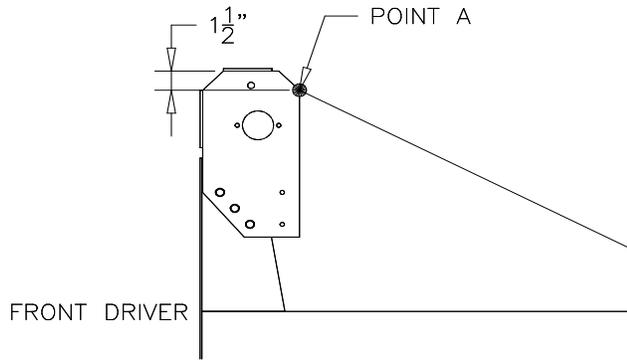
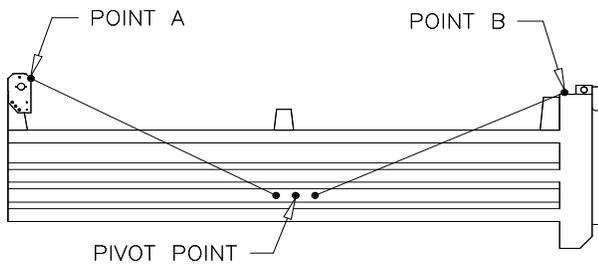
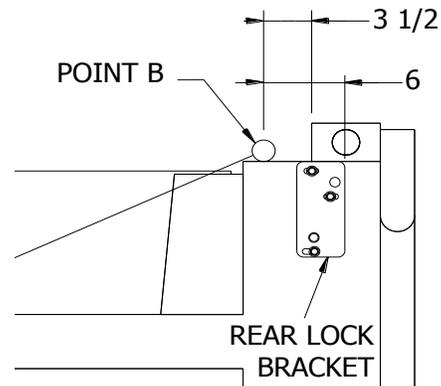

Figure 8
Figure 9
Figure 10
**Procedure:** Slide the 40X36 sprocket (P) and 1X hub on the rolltube end (see Figure 8). Place the #40 roller chain (Q) on the 40X36 sprocket (P) (see Figure 9). Hang the bottom crank (R) from the #40 chain. Apply a downward force on the bottom crank (R) to stretch out the chain. Mark the slots of the bottom crank in the lower dump body. Using a 9/32" drill bit, drill four holes through the right sides of the bracket slots. Fasten the bottom crank to the box with the 5/16"x1" self threading bolts (S) and 3/8" flat washers provided (see Figure 10). Further adjust the position of the #40X36 sprocket on the rolltube end until it is aligned with the bottom crank (R). Remove the 5/16"x3/4" set screws from the 1X hub. Mark the location of the two 5/16" threaded holes in the 1X hub. Using a 5/16" drill bit, drill two holes in the rolltube end approximately 1/4" deep. Secure the #40X36 sprocket and 1X hub to the rolltube end with the 5/16"x3/4" set screws.
**Procedure:** Measure from Point A (see Figure 8) to a point on the lower inside rib of the box that is close to the pivot point (see Figure 9). Mark this point and record the distance as X. Using distance X, measure from Point B (see Figure 10) to a point on the lower inside rib of the box (see Figure 9). Mark this point.
To install the rear lock there needs to be 6" of room behind Point B. (shown in figure 10)
Divide the distance between the first and second mark by two and mark this point as the pivot point (see Figure 9).
Slide the rear pivot arm crossmember (F) through the rear tarp pocket. Position the rear pivot arm crossmember at Point B (see Figure 10 & 14).
**Note:** The 2"OD. rear crossmember pipe (F) may have to be shortened.
Adjust the rear pivot arm crossmember (F) and the top pivot arms (G) so they are at Point B (see Figure 10 & 14).